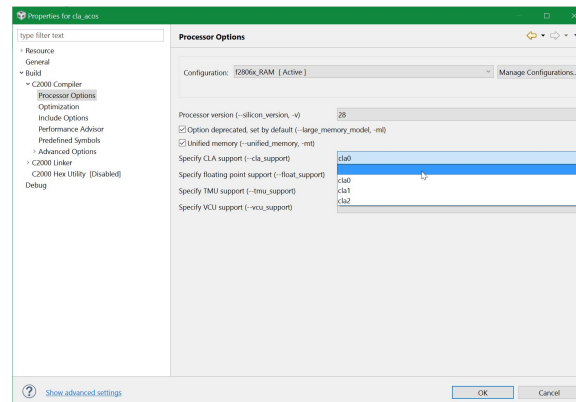

Figure 4.6: Turning on CLA support
3. Select the proper CLA type compiler support. Enable the **-cla_support** option in **Processor Options** as shown in Fig. 4.6